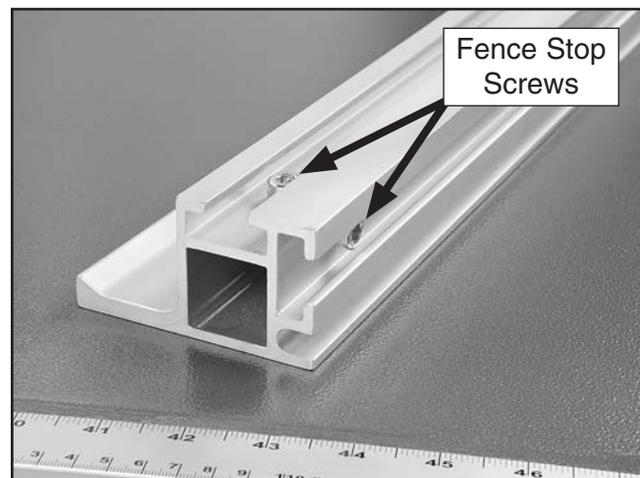

Figure 33. Rip fence stop screws.
35. Remove the rip fence stop screw from the tall side of the rip fence (see **Figure 33**).